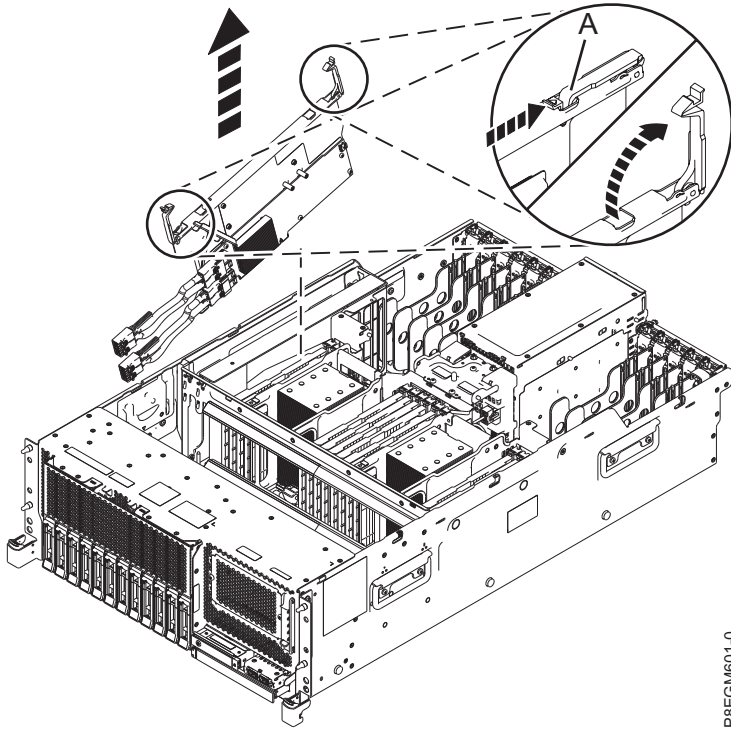

Figure 13. Removing the SAS RAID internal adapter
5. Lift the blue handles (A) of the SAS RAID internal adapter in the direction shown. See Figure 13 on page 16.